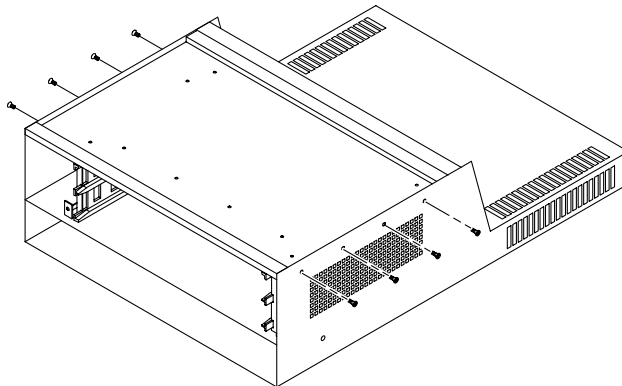

FIGURE 6-5 Removing Controller Card Cage Screws
2. **Remove the eight screws that hold the card cage to the chassis (FIGURE 6-5).**
10. Secure the eight screws that hold the controller card cage in the chassis (FIGURE 6-5).